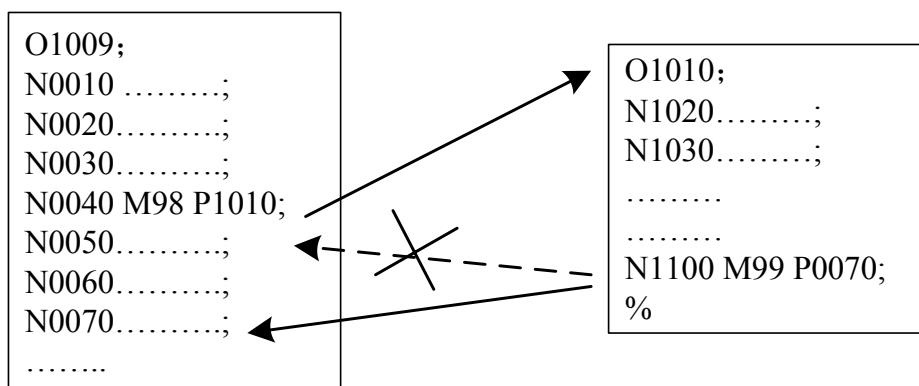
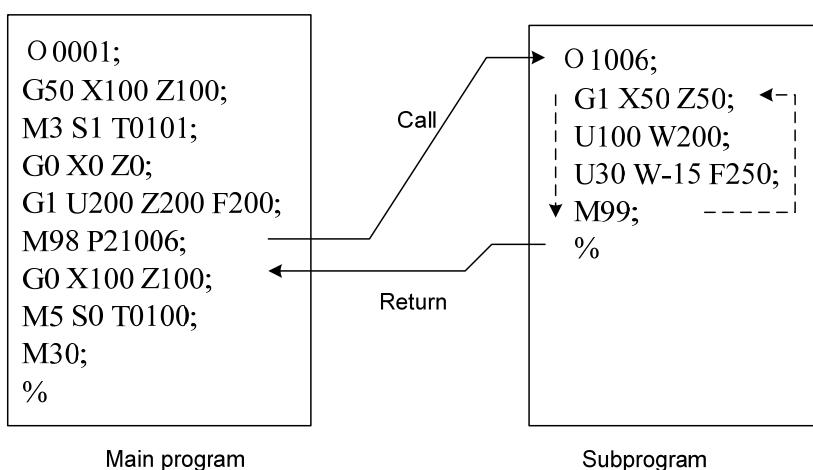

Fig. 3-3
Fig. 3-4
**Example:** Execution path of calling subprogram (with P in M99) as Fig. 3-3. Execution path of calling subprogram (without P in M99) as Fig. 3-4.